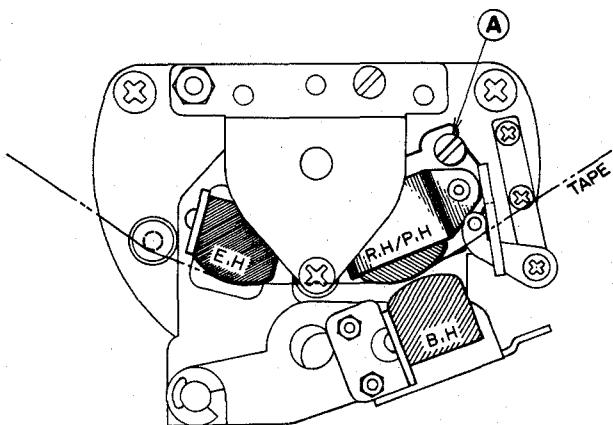

Fig. 2
a) Azimuth alignment of the Recording/Playback Head (See Fig. 2)
b) Angle of the Bias Head (See Fig. 2 and Fig. 4)